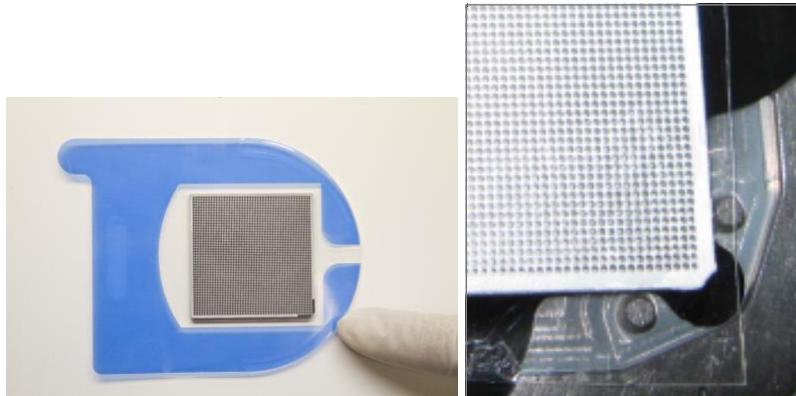

Figure 52. Peel the blue backing from the sealed chip and place it in the SmartChip Cycler.
- Peel away the blue backing from your sealed SmartChip Panel or MyDesign Chip to expose the adhesive patches. Place it in the SmartChip Cycler with the beveled edge in the lower right corner as shown in Figure 52. Make sure the chip lays flat in the SmartChip holder.